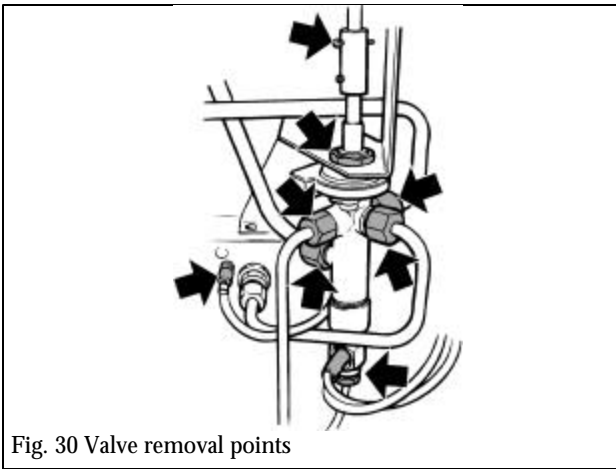

Fig. 30 Valve removal points
4.Disconnect the valve extension rod by removing the split pin just above the valve spindle and lifting rod upwards (see fig.30)